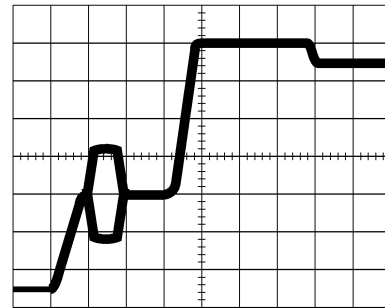

figure 3
► Select SEARCH Mode, and adjust the DELAY control to bring the beginning of the highlighted region onto the rising edge of the line synchronisation pulse (Figure 3).